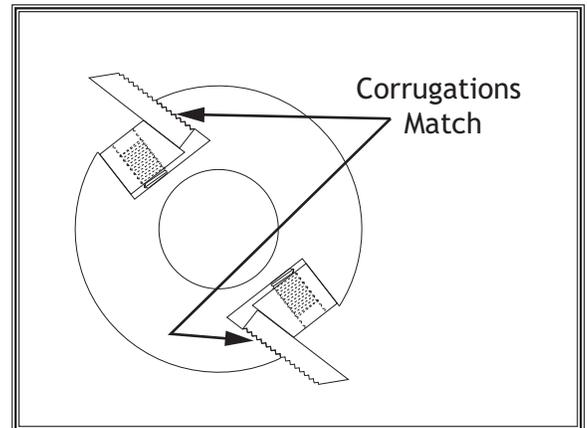

Figure 4. Position of knife corrugations match.
4. Repeat Steps 1-3 to insert second knife in moulding head. Make sure position of corrugations on first and second knives is the same (see Figure 4) so both knives are an equal height.